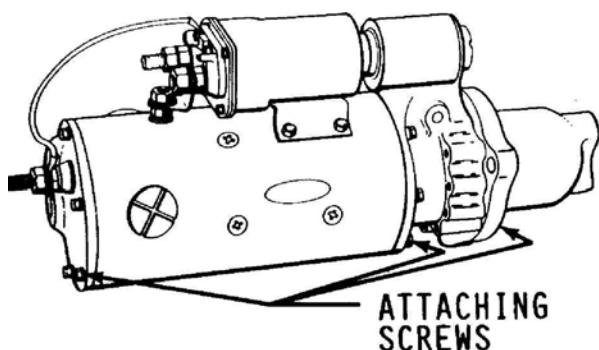

Figure 2-6. Location of Housing Attaching Screws
- 7) Housing Attaching Screws. If starter produces excessive noise because a housing is not securely fastened, check and/or torque attaching screws (fig. 2-6) to 144-192 lb-in (16.3 to 21.7 N•m).